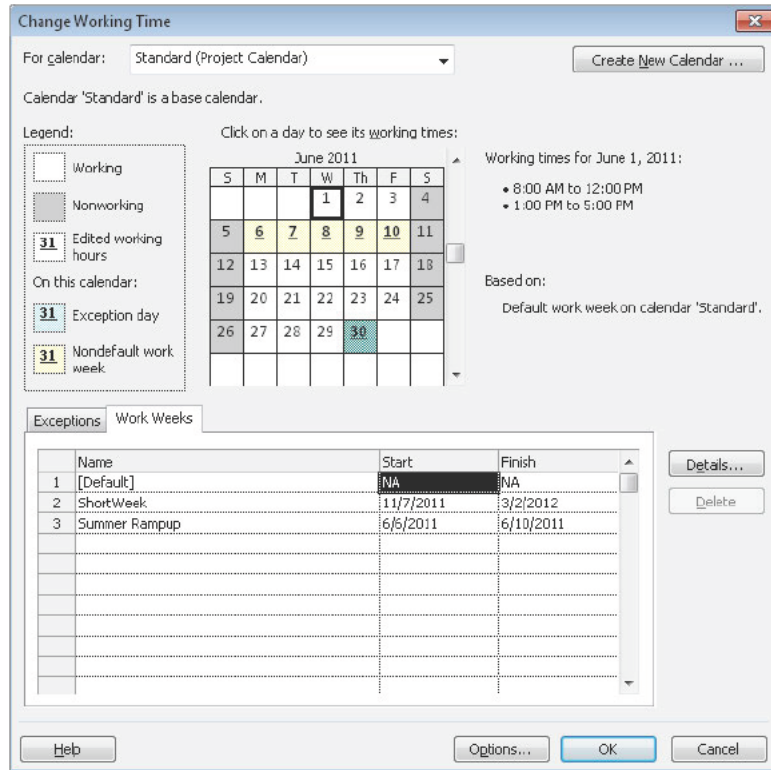

FIGURE 6-14 Project displays working days in white; nonworking days are gray and underlined; and nonstandard work days are shaded and underlined.
- *The Standard calendar* that comes with Project applies to every project and task you create and every resource you assign. You can modify the Standard calendar to reflect your organization's holidays and time off that applies to everyone, such as a two-week closure at a manufacturing plant, shown in Figure 6-14.